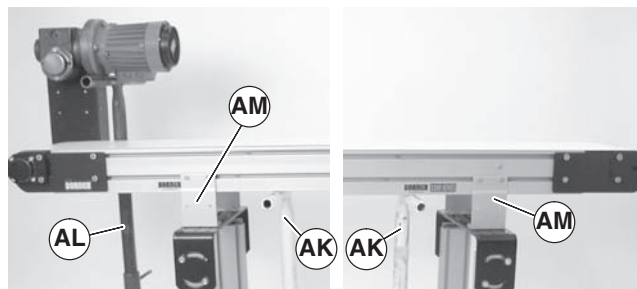

Figure 20
1. Place temporary support stands (Figure 20, item AK) at both ends of the conveyor. Place an additional support stand under the drive motor (AL), if equipped. See WARNING.
2. Remove mounting brackets (Figure 20, item AM) from one side of conveyor. (Reverse steps 3 & 4 of "Mounting Brackets" section on page 7).
1. Ensure temporary support stands (Figure 20, item AK) are placed at both ends of the conveyor. Place an additional support stand under the drive motor (AL), if equipped. See WARNING.